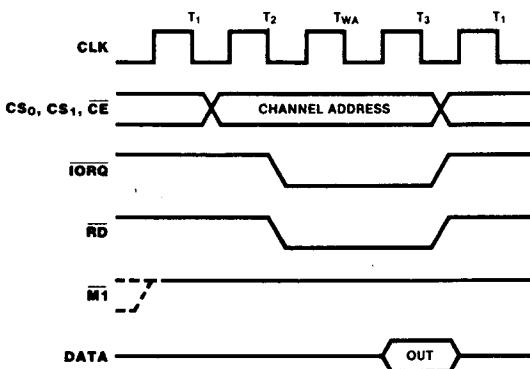

Figure 9. Read Cycle Timing
**Read Cycle Timing.** Figure 9 shows read cycle timing. This cycle reads the contents of a down-counter without disturbing the count. During clock cycle T2, the Z80 CPU initiates a read cycle by driving the following inputs Low: RD̄, IORQ, and CĒ. A 2-bit binary code at inputs CS1 and CS0 selects the channel to be read. M1 must be High to distinguish this cycle from an interrupt acknowledge.